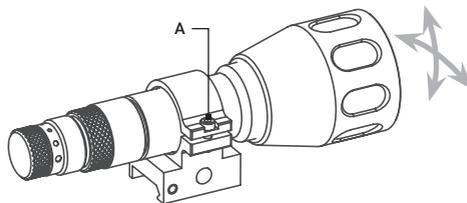

FIGURE 6. IRSPOT POSITION ADJUSTMENT
4. To adjust the IR spot position in the field of view (refer to Figure 6):
- a) Loosen the screw (A) of the clamp on the IR illuminator mount (using a 2.5 mm hex key);
- d) Once the IR spot is centered in the field of view, tighten the clamp screw (A).